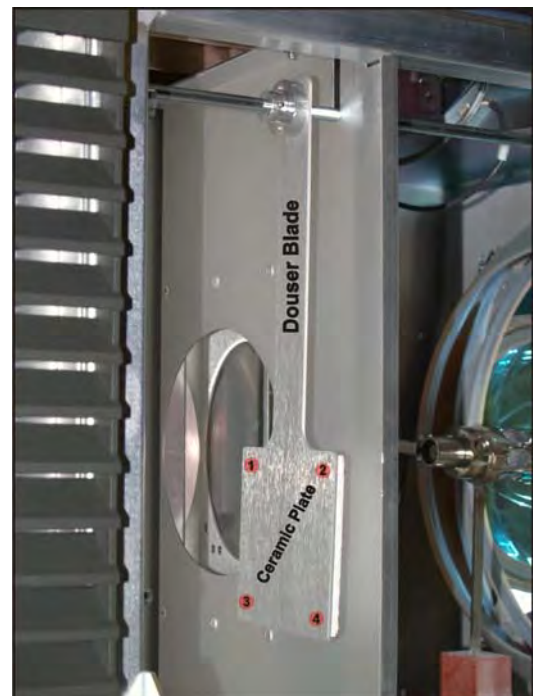

Figure 5-53 Ceramic Plate
3. Using a #2 Phillips™, remove the four screws securing the ceramic plate to the douser blade. **(Figure 5-53)**